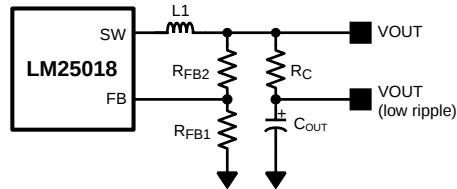

Figure 13. Low Ripple Output Configuration
This regulator regulates the output voltage based on ripple voltage at the feedback input, requiring a minimum amount of ESR for the output capacitor (C_{OUT}). A minimum of 25 mV of ripple voltage at the feedback pin (FB) is required for the LM25018. In cases where the capacitor ESR is too small, additional series resistance may be required (R_C in Figure 13).
For applications where lower output voltage ripple is required the output can be taken directly from a low ESR output capacitor, as shown in Figure 13. However, R_C slightly degrades the load regulation.